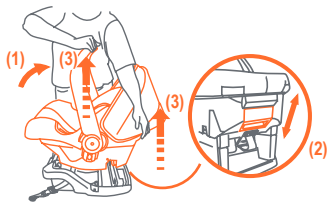

Fig. 45-2
1. (1) Rotate Carry Handle to the carry position. (2) Locate the red release handle behind the head end of the car seat. Squeeze the handle to engage the base release (Fig. 45-2). (3) Lift Car Seat by the Carry Handle and Base Release handle simultaneously. **Do Not** lift by front of car seat